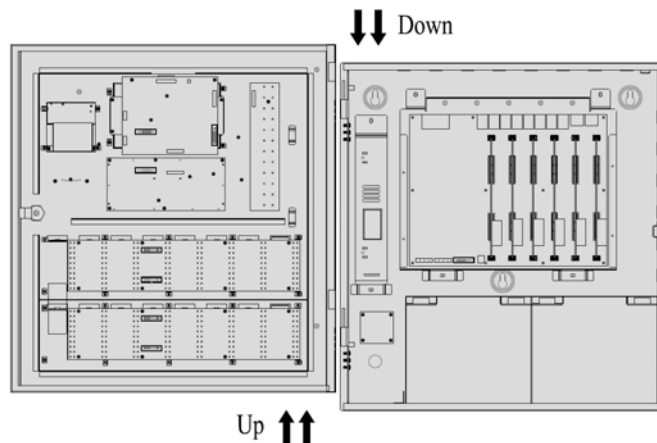

Figure 5: Door dismantle
- Carefully remove the door from the support open hinged door [Fig. 5].